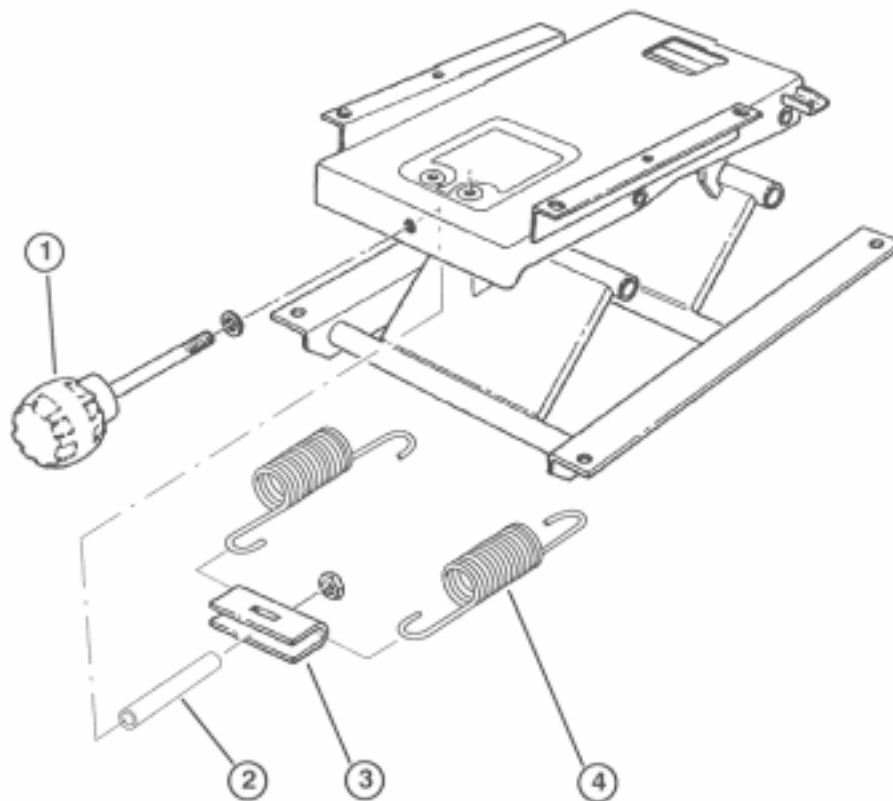

Figure 1
1. Unscrew the knob completely from the suspension (Fig. 1).
2. Invert the suspension and remove the spring hanger by sliding it towards the extension springs (Fig. 1).